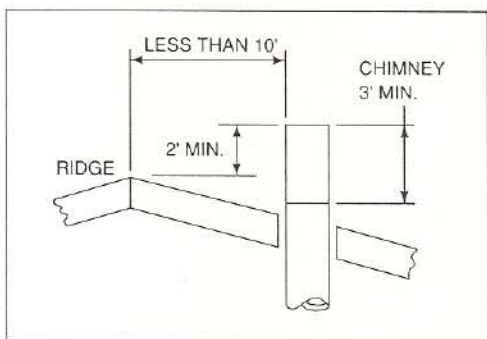

Figure 10
- If the horizontal distance from the side of the chimney to the peak of the roof is 10 feet or less, the top of the chimney must be at least 2 feet above the peak of the roof, but never less than 3 feet in height above the highest point where it passes through the roof. See Figure 10.